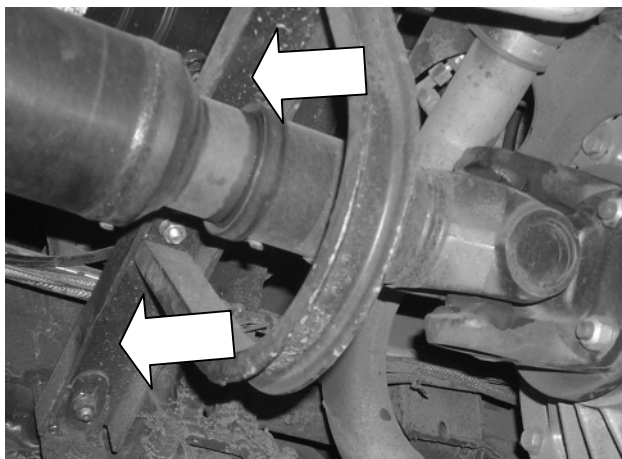

Figure 5: Chassis upper cross member
- 2) Undo and remove the nuts and bolts securing the upper cross member, which is located above the propeller shaft slip yoke (see Figure 5). Remove the cross member.